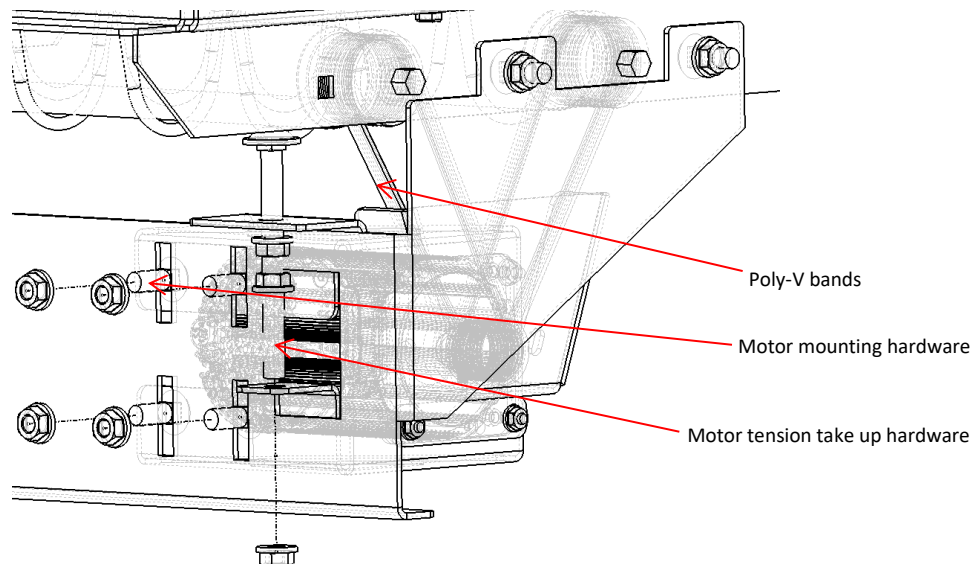

Figure 14: Exploded view - PWD drive motor mount
3. Remove the (4) 3/8" carriage bolt and serrated flange nuts attached on the back of the drive motor mount. Refer to Figure 14 for the motor mount locations. Loosen the motor take up hardware and then loosen the motor mount hardware. Proceed to adjust the motor tension take up until there is no tension on the Poly-V bands. Undo the mounting hardware and remove the take up bolt to slip out the motor mount sub assembly. The torque requirement for the 3/8" carriage bolt and serrated flange nuts is 31 ft-lbs.